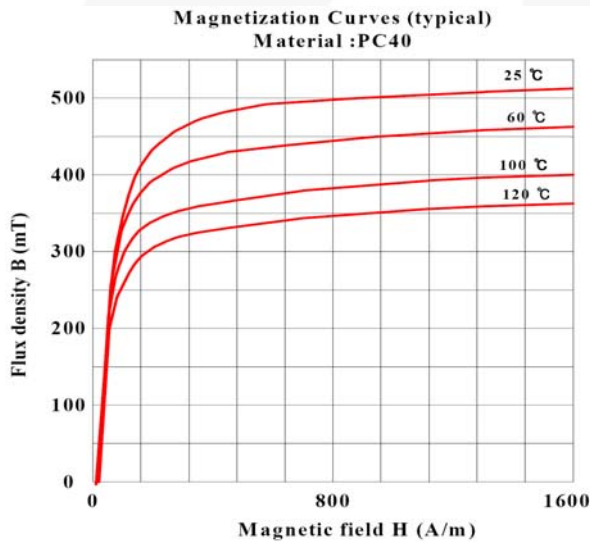

Figure 6. Typical B-H Characteristics of Ferrite Core (TDK/PC40)
The pulse-by-pulse current limit level is included in Equation (19) because the inductor current reaches the pulse-by-pulse current limit level during the load transient or overload condition. Figure 6 shows the typical characteristics of ferrite core from TDK (PC40). Since the saturation flux density ( $B_{\text{SAT}}$ ) decreases as the temperature rises, the high-temperature characteristics should be considered. If there is no reference data, use  $B_{\text{MAX}} = 0.3\text{T}$ .